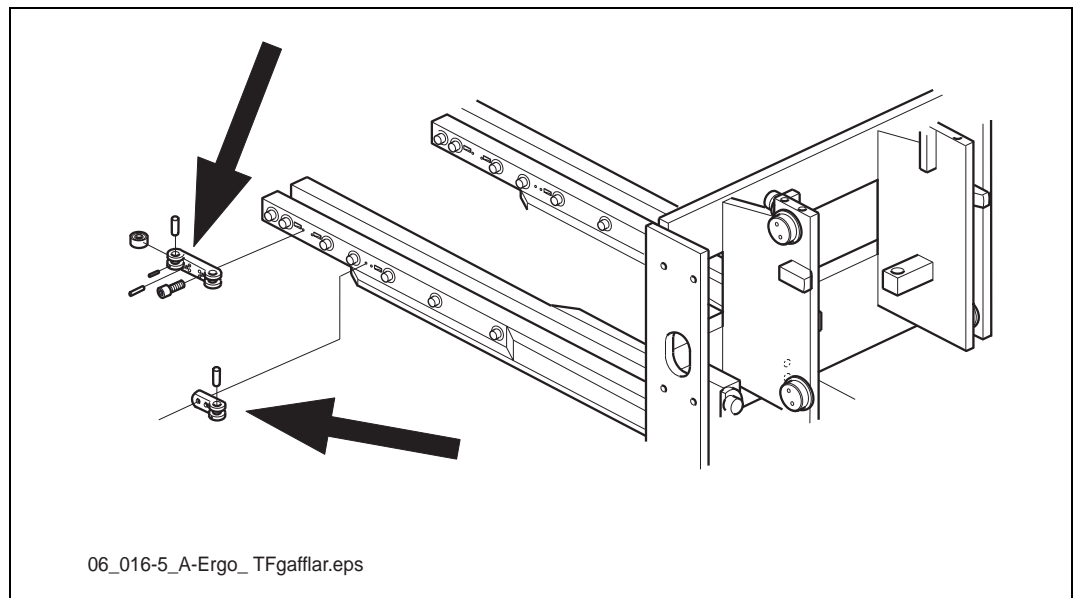

Figure 6.33 Side thrust rollers
11. Remove the side thrust rollers, figure 6.33.